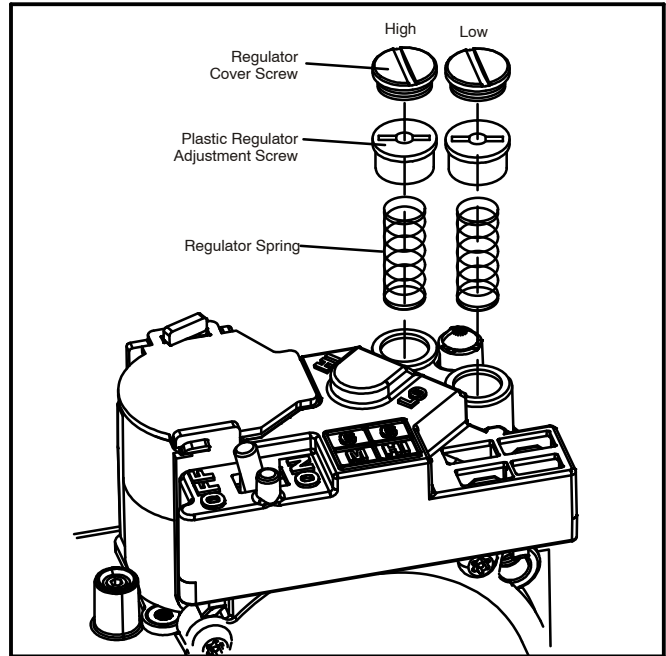

FIGURE 3
- a - Remove both high fire and low fire springs from the gas valve. See figure 3.